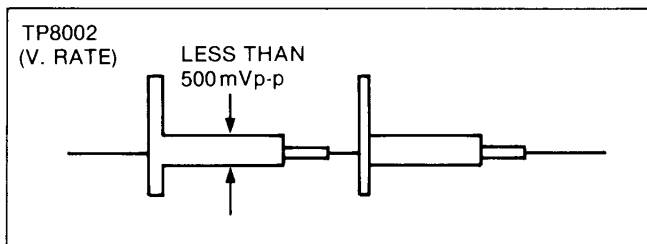

Figure E39
4. Adjust VR8005 and VR8006 mutually so that the chroma signal is minimized as possible (less than 500mVp-p at least) as shown in Figure E39.